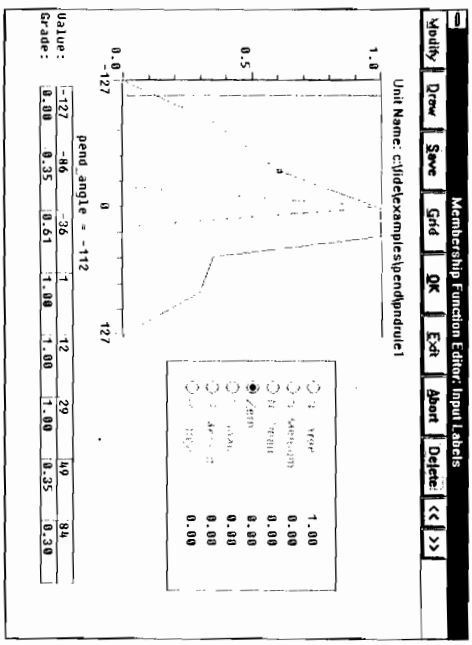

Figure 5-13 Editing Membership Function
17. Move the pointer on the graph and click where the points of the label should be located. Use the delete button to erase any point you are re-defining and do not like (see Figure 5-13).